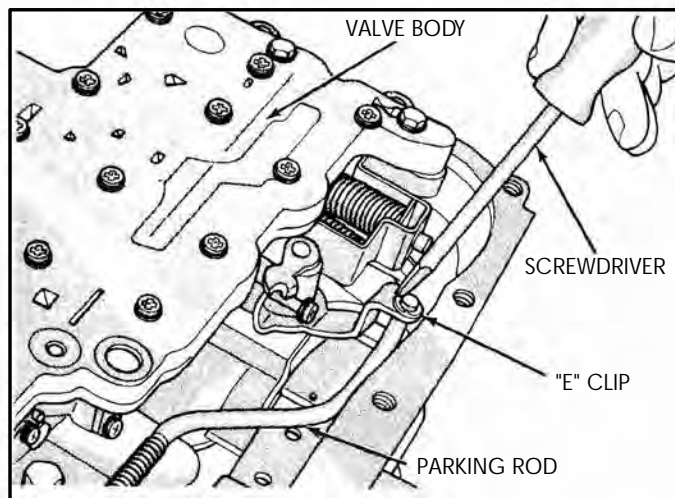

Figure 240
6. Install parking rod into manual lever bracket, as shown in Figure 240, and install "E" clip.